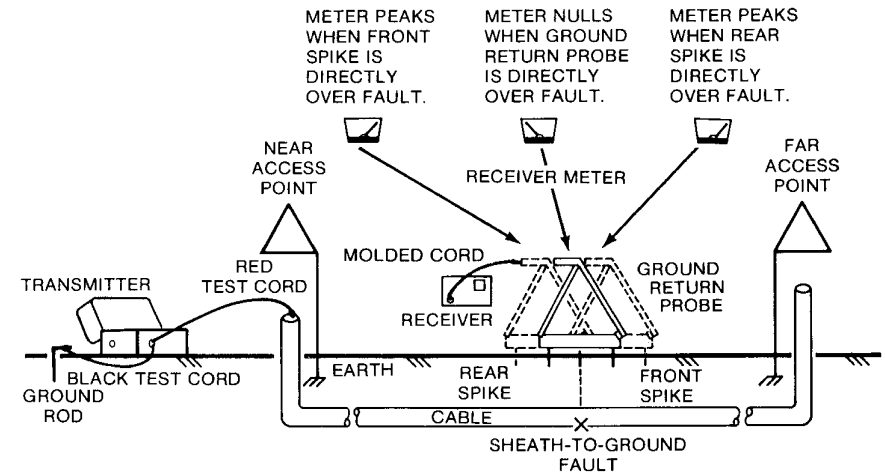

Figure 3-1.
3. Connect the black test cord clip to the ground rod (see Figure 3-1).
4. Plug the jack end of the red/black test cord into the TRACING TONE jack receptacle on the transmitter (see Figure 3-1).
The meter readings will rise as you probe until a maximum (PEAK) level is reached (see Figure 3-1). Periodically adjust the GAIN control knob on the receiver to prevent meter readings greater than 10. When you reach the PEAK meter reading, change the distance between probings from 6 inches to 2 inches. While continuing to probe, the meter readings will now begin to fall until a minimum (NULL) level is reached (see Figure 3-1).